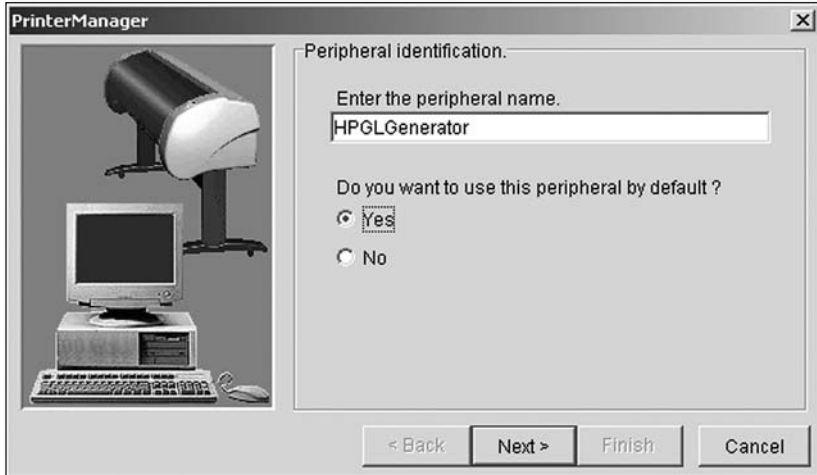

Figure 15. Assign a peripheral name.
3. Give the peripheral a name and place a check in the box next to *Yes* to make this the default. (*Figure 15*).